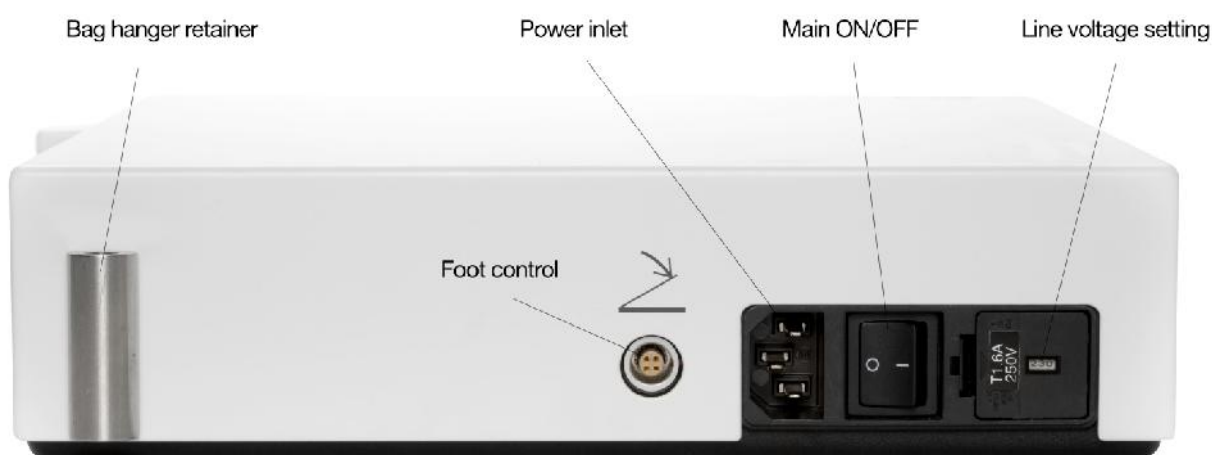

Fig. 1
At first, make sure that the voltage setting of your unit is in accordance with your local supply line voltage - see Fig. 1. Should this not be the case, contact your Dealer.
1. Connect the power cord with the power inlet on the rear of the control box (Fig. 1) and plug into a wall socket with appropriate protective ground connection.
2. Connect the foot control by plugging its cable connector end into the socket on the rear of the control box (Fig. 1).
3. Insert the bag hanger into its retainer on the rear of the control box (Fig. 1).